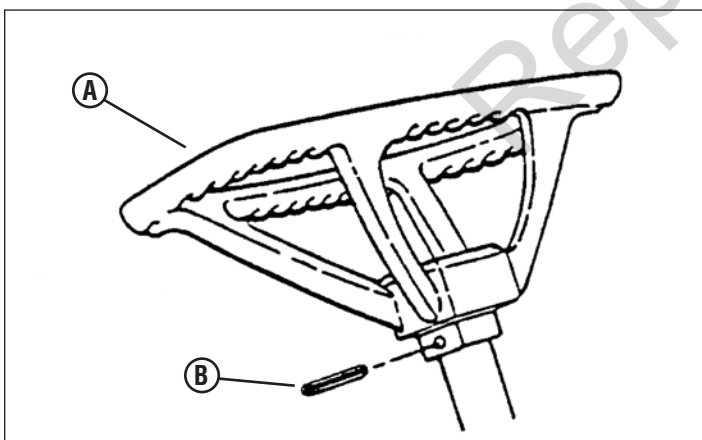

Figure 3
- Slide the steering wheel (A, Figure 3) onto the steering shaft. Normally, the offset of the steering wheel should be towards operator's seat.
- Align the holes in the steering wheel and steering shaft. Support the steering wheel and drive the 1/4" x 1-1/2" roll pin (B) into the steering wheel and steering shaft.